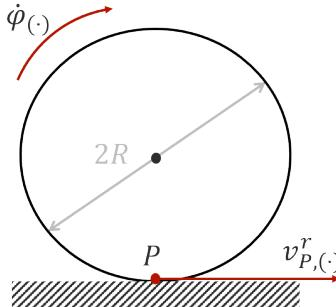

Figure 11.3. Pure rolling kinematic constraint
**Note:** a simpler way of deriving (9) is noticing, from (3), that  $\dot{y}_A^R = v_w(t) - c\dot{\theta}(t)$ .
- *Pure rolling*: the wheels never slips or skids (Figure 11.3). Recalling that  $R$  is the radius of the wheels (identical) and letting  $\dot{\phi}_l, \dot{\phi}_r$  be the angular velocities of the left and right wheels respectively, the velocity of the ground contact point P in the robot frame is given by: